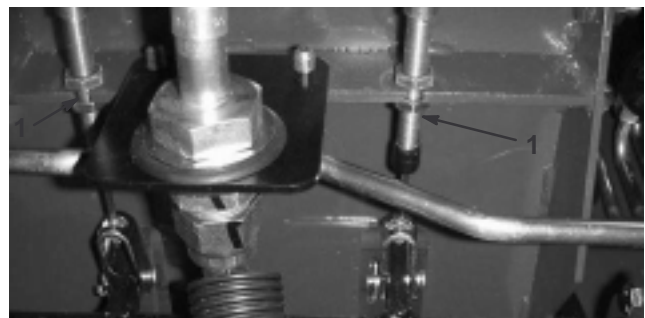

Figure 46
- A. Loosen the front nut on the threaded end of the brake cable (Fig. 46).